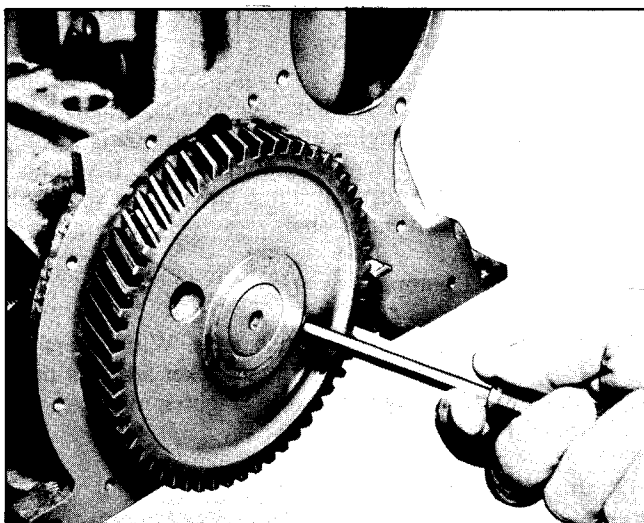

Fig. 6-46 Removing Camshaft Thrust Plate Screws
9. Remove the two camshaft thrust plate screws by working through holes in the camshaft gear (Fig. 6-46).